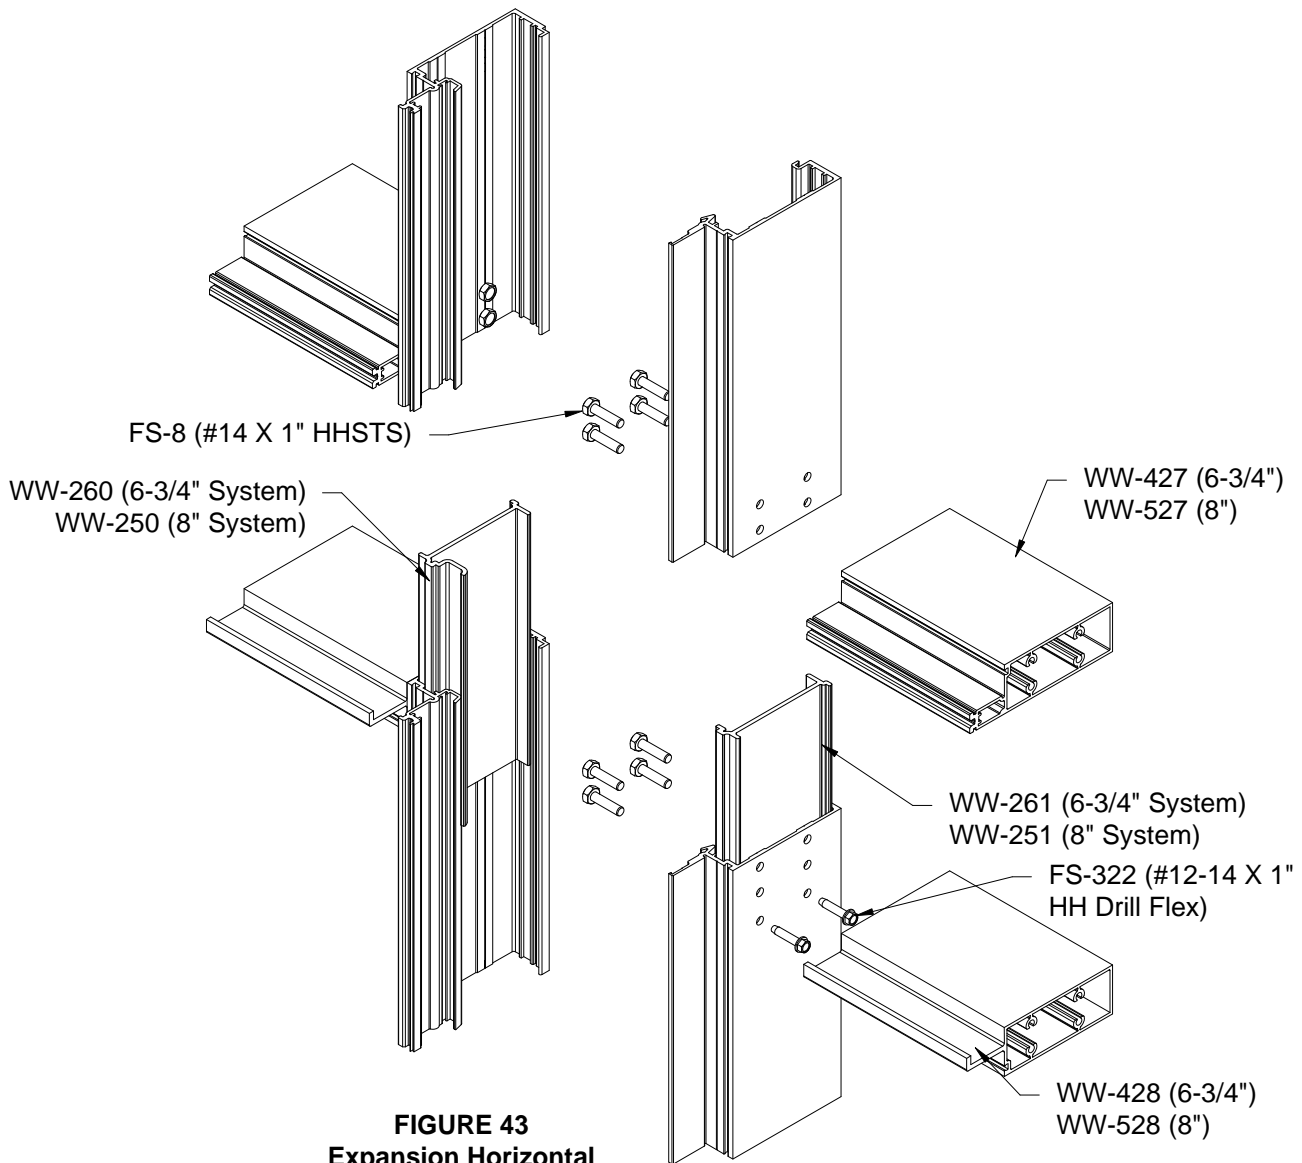

FIGURE 43
- 3.26 FIGURE 43 below shows the screw spline assembly for the dual horizontal expansion assembly. Use the Reliance™-SS Installation Manual for typical wall assembly.